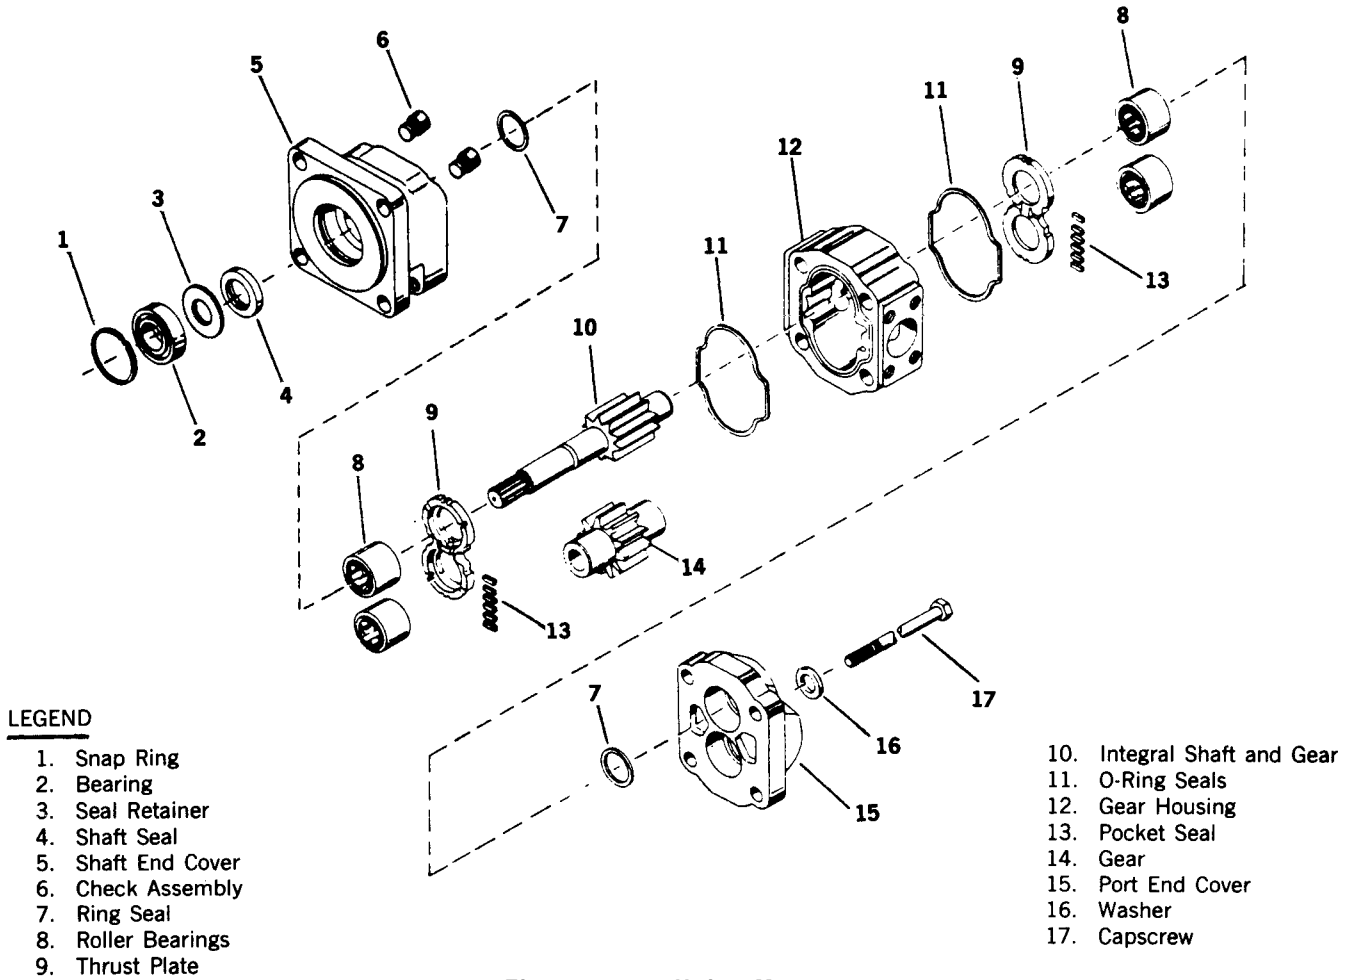

Figure 11-4. Hoist Motor
b. Remove capscrews (55) securing hoist motor (42) to end plate (57). Remove and discard O-ring (49). Tag and remove fittings (51 and 52).
c. Remove capscrews (46 and 47), brake valve (44) and manifold (43). Discard O-rings (48 and 80).
d. Index mark port end cover (15, figure 11-4), gear housing (12), and shaft end cover (5) to facilitate reassembly.
Wear in excess of 0.005-inch (0.127 mm) in the gear housing cutout (12, figure 11-4) justifies replacement of the housing.
a. If removed, install check assemblies (6, figure 11-4) into shaft end cover (5).
b. Install shaft seal (4) and seal retainer (3) into end cover (5).
c. Install outboard bearing (2) into shaft end cover.
d. Install snap ring (1) into shaft end cover groove to retain outboard bearing.
e. If removed, install new ring seals (7) into bottom of integral shaft and gear bearing bore on both shaft end cover (5) and port end cover (15).
f. Replace bearings (8) that have been removed from shaft end cover (5) and port end cover (15). Install bearings with an arbor press.
g. Place a small amount of heavy grease into two middle slots in open face of thrust plates (9) and insert pocket seals (13).
h. Position two thrust plates (9) with pocket seal slots toward face of shaft end cover and port end cover over bearings (8). Ensure pocket seals (13) in center slots are still in place and tap thrust plate with a soft mallet to 0.031-inch (0.794 mm) from machined surface.
i. Cut four pocket seals (13) for each thrust plate (9) approximately 0.25-inch (6.35 mm) long from pocket sealstrip. Insert one pocket seal into each slot in thrust plate (9). Push each pocket seal all the way in so that they touch roller bearings (8). Tap thrust plate (9) down firmly against machined surface with a soft mallet. Using a sharp razor blade, trim exposed end of pocket seal square and flush with thrust plate.
j. Grease new O-ring seals (11) and install seals into grooves in both sides of gear housing (12).
k. Install drive gear (14) and integral shaft and gear (10) into shaft end cover roller bearing bores.